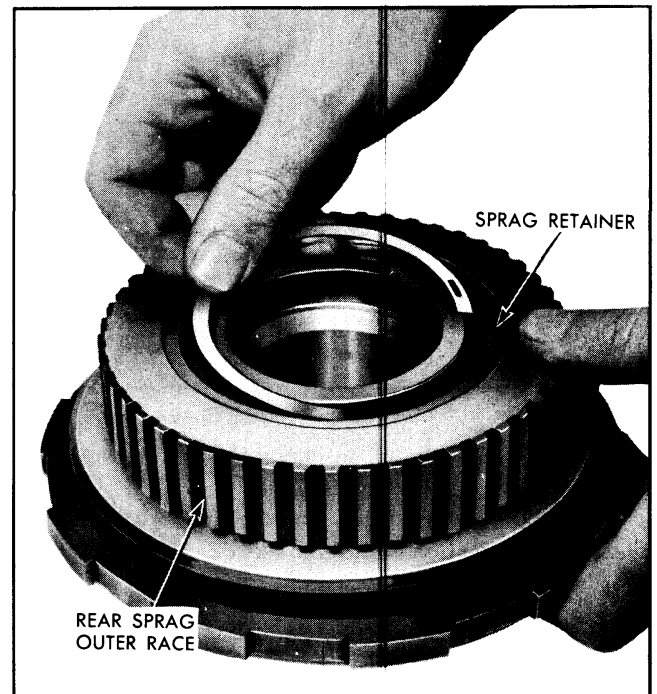

Fig. 7D-95 Installing Rear Unit Sprag Retainer Snap Ring
21. Install spiral snap ring on rear sprag inner race (Fig. 7D-95).